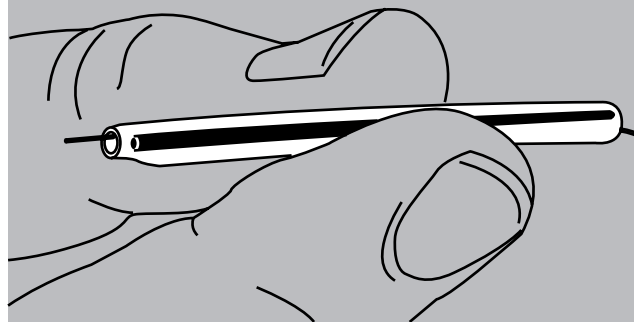

FIGURE 15
15. Select and carefully remove the two fibres to be spliced from splice tray. Position a splice protector over one fibre only, away from the work area. Prepare, clean and cleave both fibres for splicing as per company practice. (Figure 15)